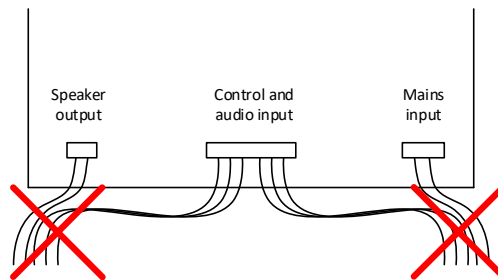

Figure 29: Wire bundling
- Do not bundle mains wires together with other cables (Figure 29).
- Do not bundle speaker wires together with other cables (Figure 29).